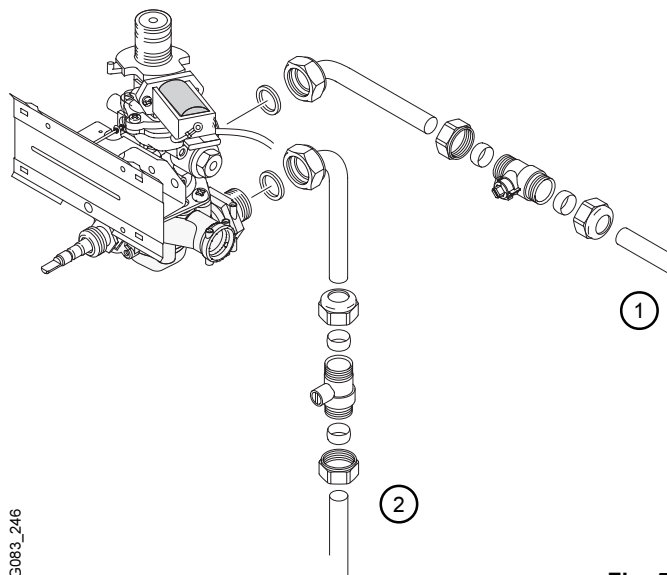

Fig. 5
d) Make up the gas supply to the upper connection on the gas control assembly using the fibre washer provided. Fit the gas isolation cock as close as possible to the appliance (see fig. 5, pos. 1).
e) Connect the appliance to the incoming cold water supply via the fitting which includes the stop valve. A fibre washer is provided (see fig. 5, pos. 2).